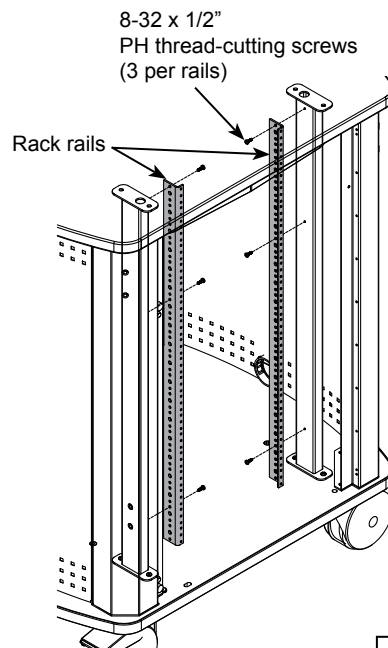

Figure 2
1. Position each rack rail with the short leg pointing inward as shown. **Figure 2**. Align the top hole of each rack rail with the top mounting hole in each rail support.
2. Using an electric drill with a #1 Phillips driver, attach each rail to the rail support with (3) 8-32 x 1/2" thread cutting screws. Tighten securely, but be careful not to strip out the holes. If equipped, a drill torque setting can help facilitate attaching the screws.